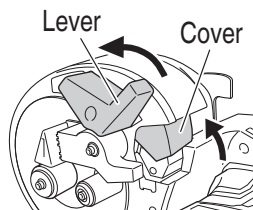

Fig. 21
- (3) Open the cover. (**Fig. 21**)
- (4) Lower the upper cutter.